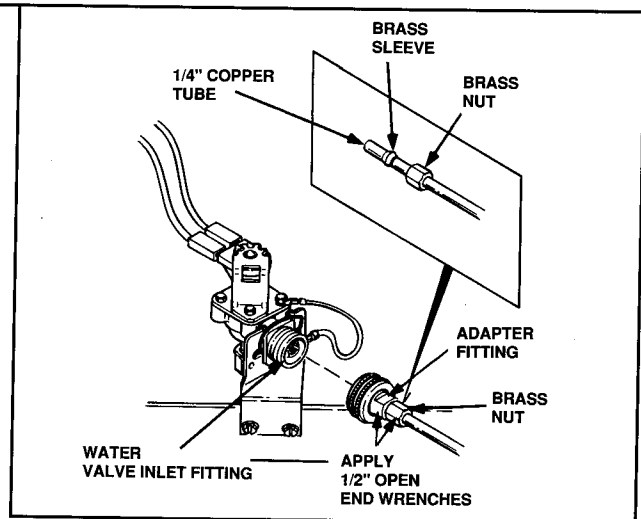

Figure 29
5. Slip brass nut and brass sleeve over end of 1/4 inch copper tube. *Make sure you start brass nut by hand to avoid cross threading.* Insert 1/4" tube completely into adapter fitting using two 1/2" open end wrenches, and secure with one to hold brass nut on tube and other to hold 1/2" flat on hose adapter. See Figure 29. **NOTE: Pull on copper tubing to see if the tubing is secured to adapter fitting.**